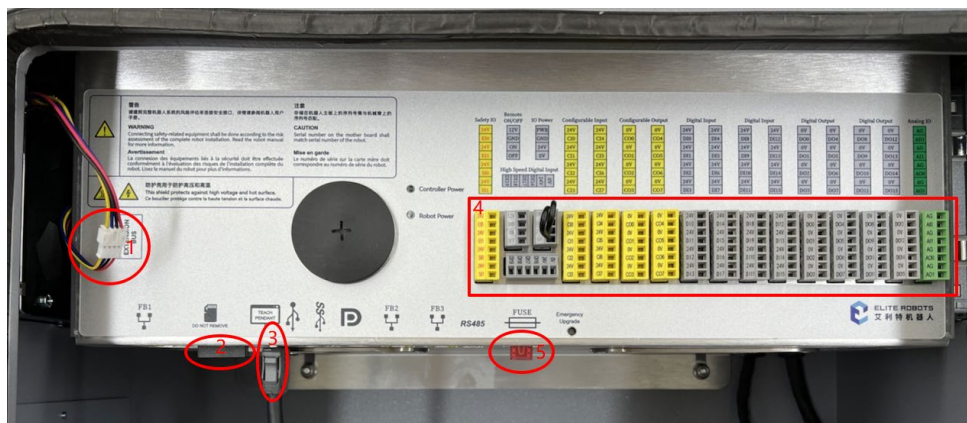

Figure 3-33 Wiring, patch cords, cards and fuses and IO plugs
- Plug in the cable of the fan, plug in the teach pendant cable, plug in the flash memory card, fuse and IO plug, as shown in Figure 3-33: